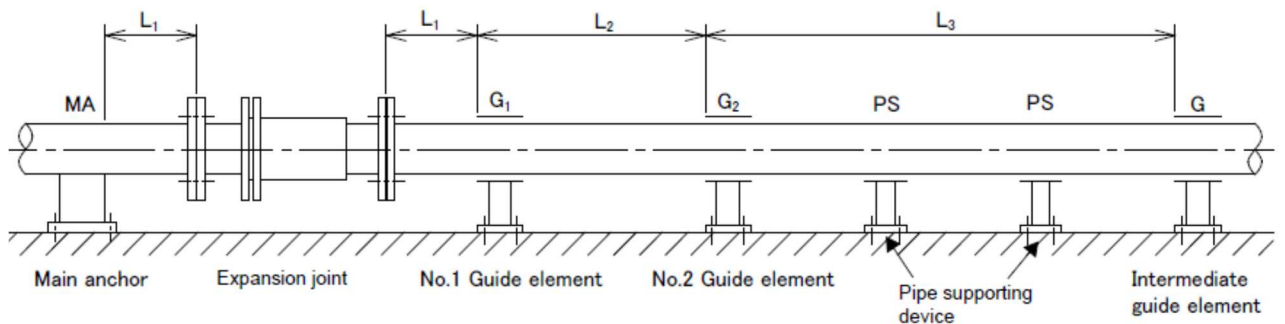

Fig.1 Mounting intervals of guide element
As given in figure 1, the installation intervals of respective guide elements such as the interval (L_1) from the expansion joints to No.1 guide element, the interval (L_2) to No.2 guide element and the interval (L_3) to the intermediate guide elements shall not exceed the interval values obtained from formula (F) to (H) shown in the following [1] to [3].